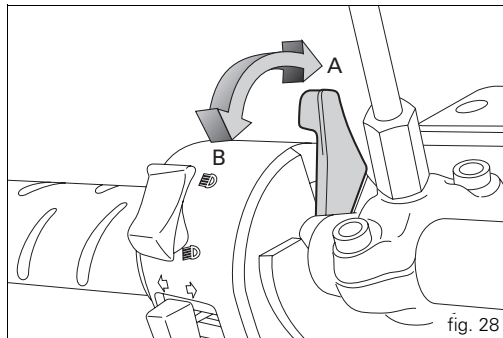

fig. 28
- 2) Move the cold start lever to position (B, fig. 28).
5) Then, as the engine warms up, move the cold start lever gradually towards vertical position (A, fig. 28). Once the engine is at normal running speed, it should idle smoothly with the cold start lever completely closed.